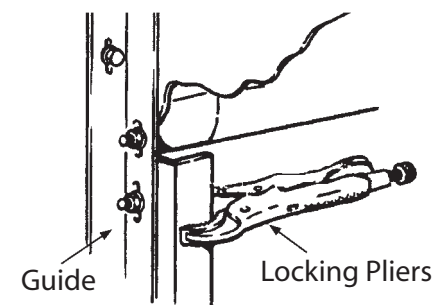

Fig 18
- Place locking pliers on LH & RH guides at 2 to 3 inches below the top of the guides as shown in Fig 18.